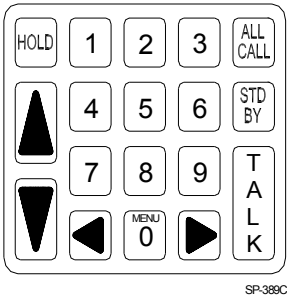

Figure 8. Model 2475 Keypad
4. If the volume is unsatisfactory, adjust the ALL CALL volume control in the Communications Controller. (See Figure 8.) Turn clockwise to increase the volume, counter-clockwise to decrease it.